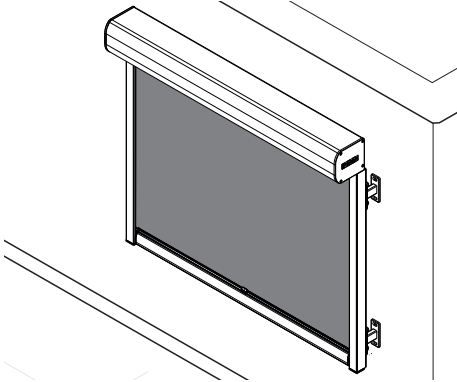

Fig. 17: Cleaning fabric components
4. Brush out or vacuum the guide rails (Fig. 17/1).